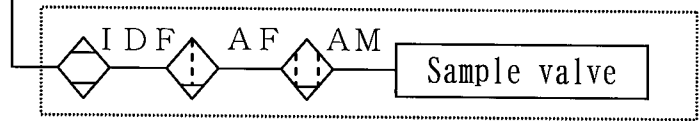

Fig. 1
- Lubrication : Non-lubricated [Fig. 1]